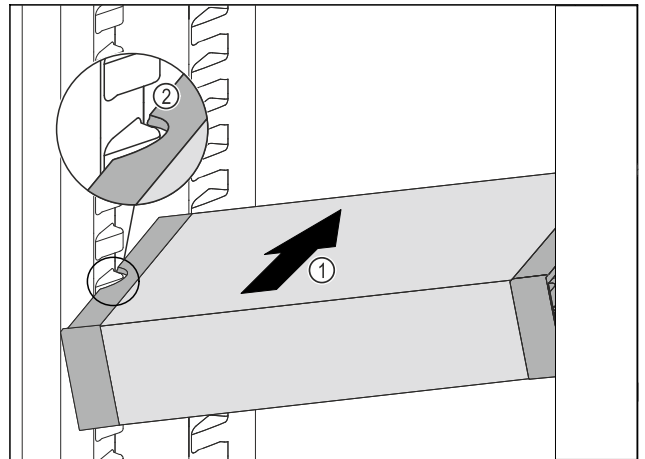

Fig. 115
- ▶ Insert the VarioSafe into the fridge section at an angle Fig. 115 (1) until the recesses in the side Fig. 115 (2) of the VarioSafe are at the level of the support rib in the fridge section.